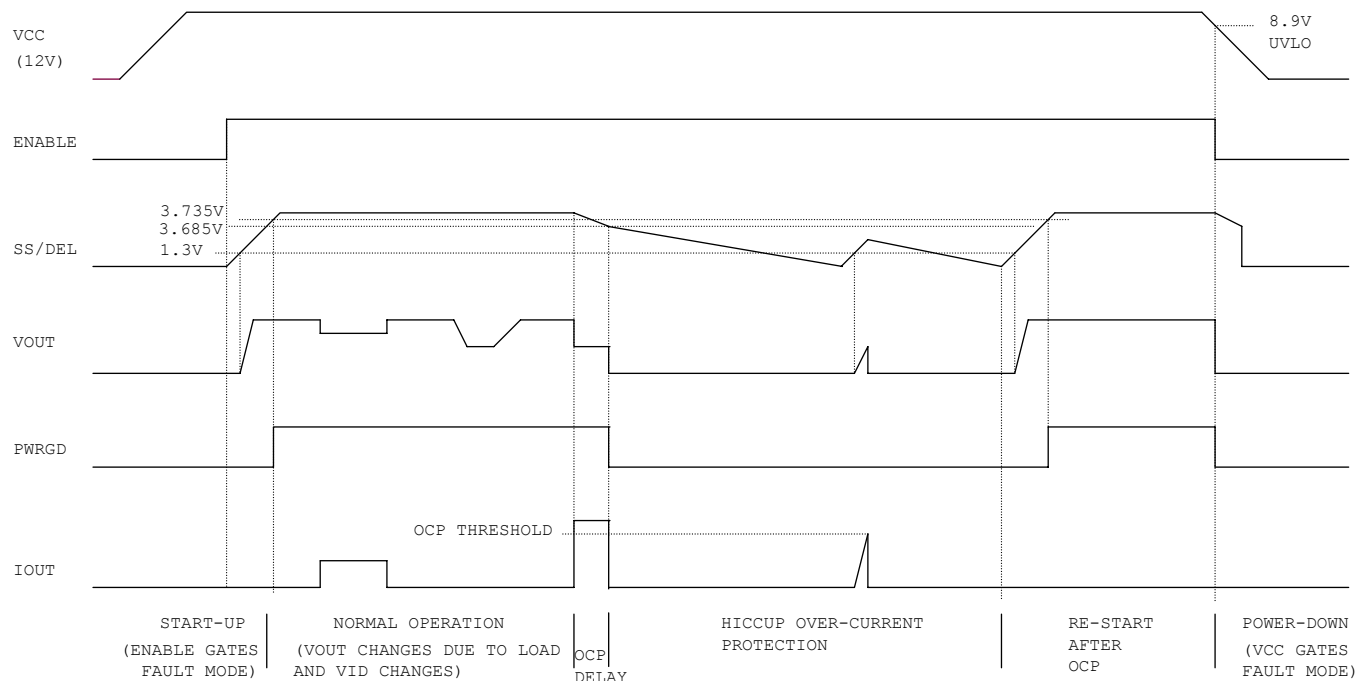

Figure 10. Operating Waveforms
Figure 10 depicts the various operating modes as controlled by the SS/DEL function. If there is no fault, the SS/DEL pin will begin to be charged. The error amplifier output is clamped low until SS/DEL reaches 1.3V. The error amplifier will then regulate the converter's output voltage to match the SS/DEL voltage less the 1.3V offset until it reaches the level determined by the VID inputs. The SS/DEL voltage continues to increase until it rises above 3.71V and allows the PWRGD signal to be asserted. SS/DEL finally settles at 3.8V, indicating the end of the soft start.
The SS/DEL pin voltage controls the slew rate of the converter output voltage, as shown in Figure 10. After the $ENABLE$ pin voltage rises above 0.6V, there is a soft-start delay time t_{SSDEL} , after which the error amplifier output is released to allow the soft start. The soft start time t_{ss} represents the time during which converter voltage rises from zero to V_O . t_{ss} can be programmed by an external capacitor, which is determined by Equation (1).